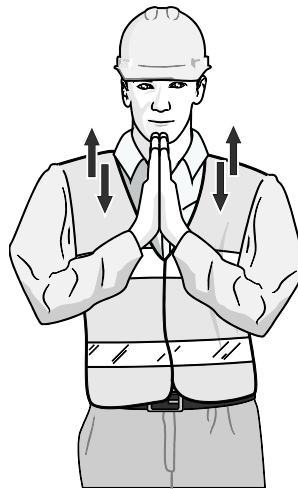

Figure 3-105
2. Perform this signal to indicate Move Load Slowly (see Figure 3-105).